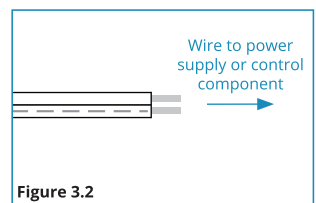

Figure 3.2
4. Strip wire ends and hard-wire to a compatible power supply or control component (Figure 3.2).